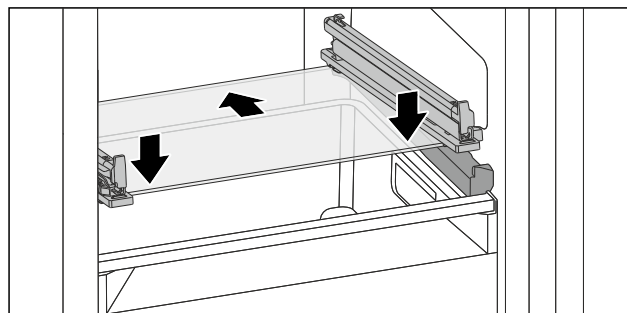

Fig. 140 Tilting drawer glass shelf
- Position glass shelf at an angle behind the stoppers. (see Fig. 140)